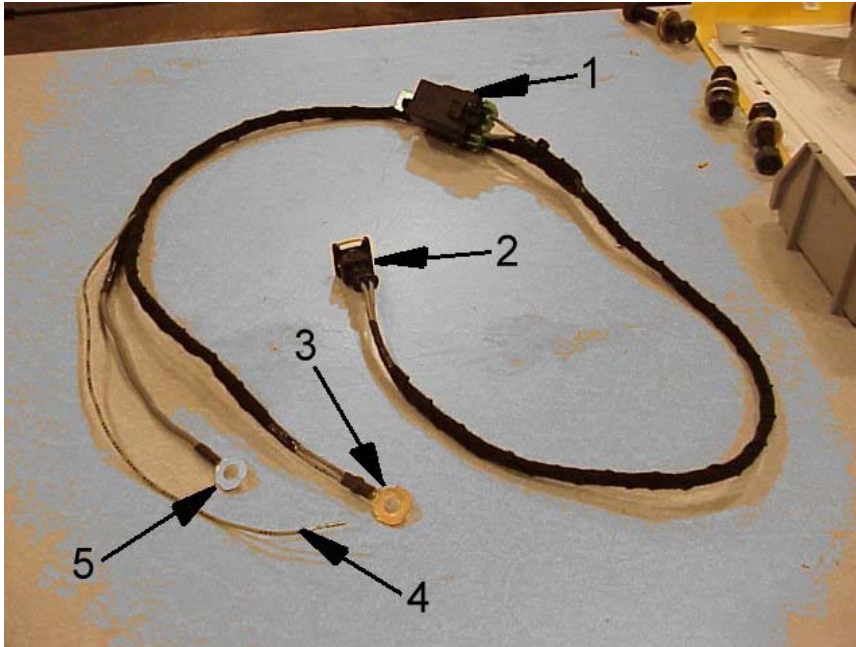
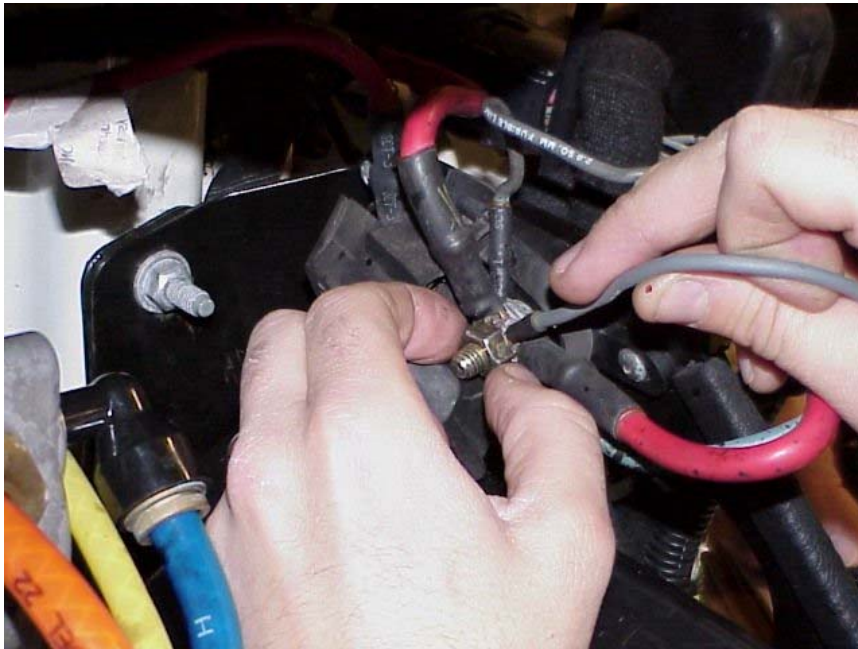
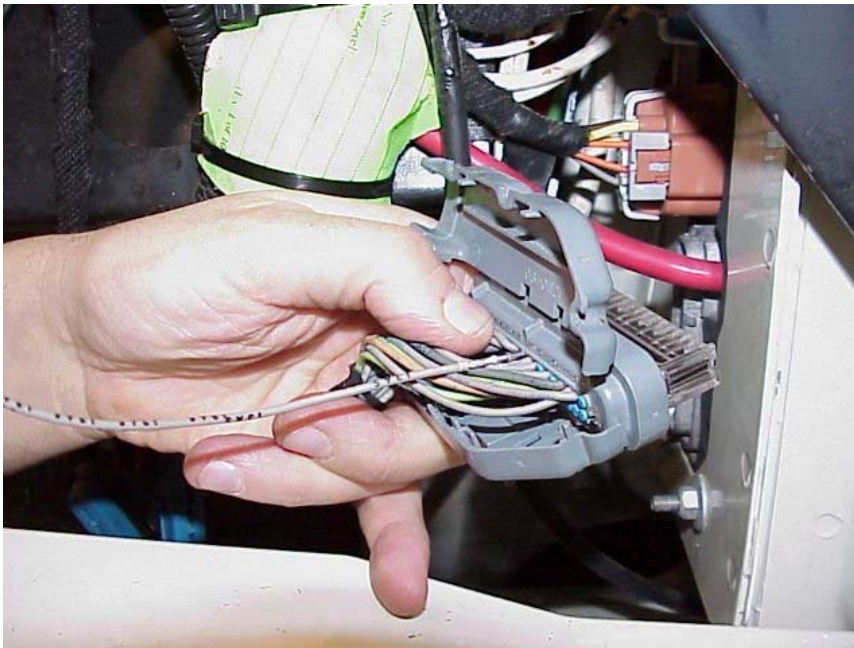
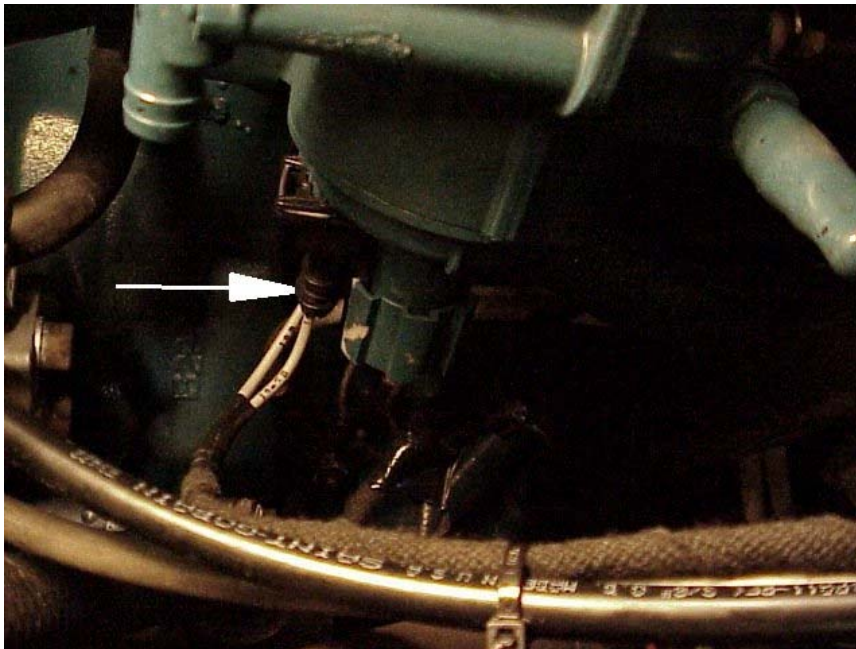

Figure 2 Overlay Harness
Figure 5 Connect to Non Fused Side of Mega Fuse
Figure 7 Insert Overlay Harness Wire Into Connector
Figure 8 Connect Overlay harness Connector to Heater Fuel / Water Separator
4. Refer to Figure 2 and Figure 3 to identify overlay harness leads. Install the ground, white wire, eyelet to the cab ground stud (Figure 4).
5. Refer to Figure 2 and identify overlay harness, grey wire (labeled fusible link), power eyelet connector. Install the power eyelet to the non-fused side (forward stud terminal) of the mega fuse (Figure 5).
7. Refer to Figure 2 and Figure 7 for the following:
8. Connect the overlay harness connector (Figure 2, Item 1) to the heater fuel/ water separator (Figure 8).